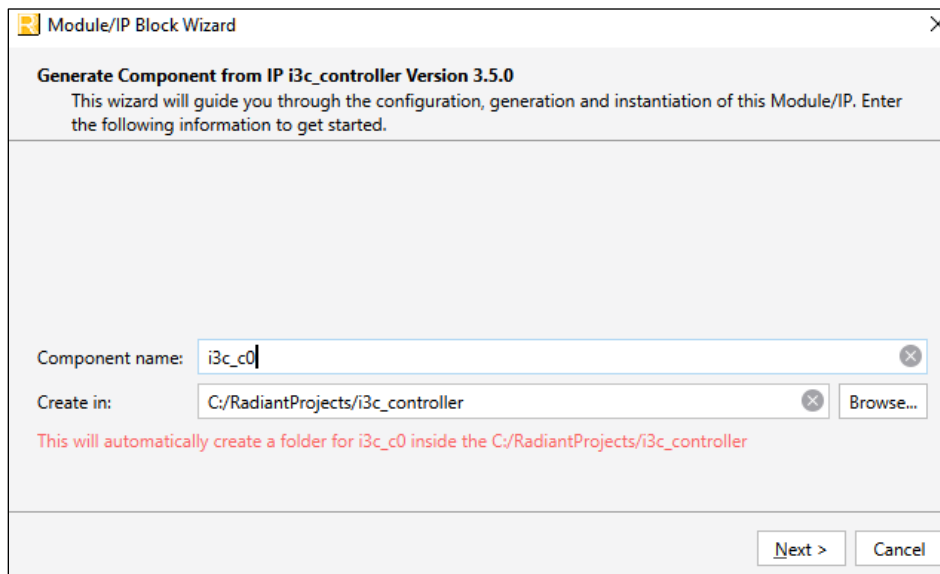

Figure 7.1. Module/IP Block Wizard
2. In the **IP Catalog** tab, double-click **I3C Controller** under **IP > Processors_Controllers_and_Peripherals** category. The **Module/IP Block Wizard** opens as shown in Figure 7.1. Enter values in the **Component name** and the **Create in** fields and click **Next**.
- Click **Finish**. All the generated files are placed under the directory paths in the **Create in** and the **Component name** fields shown in Figure 7.1.